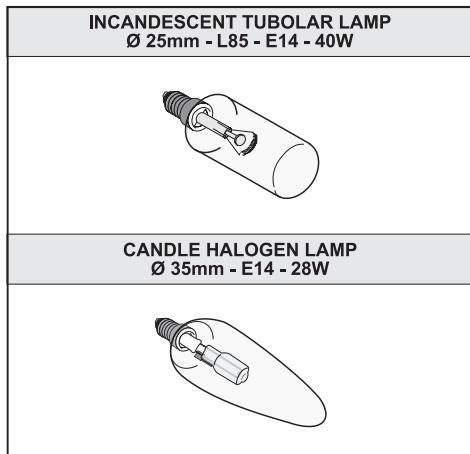

Fig.8
- **Replacing the halogen/incandescent lamps (Fig.8):**